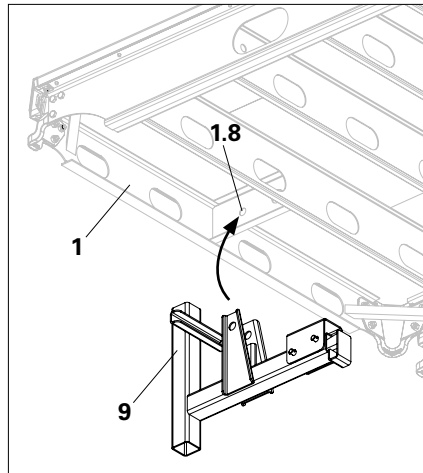
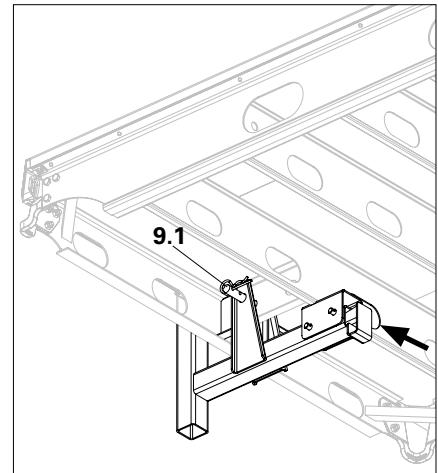

Fig. A9.01
Fig. A9.02
(Fig. A9.01 + Fig. A9.02)
3. To tighten the guardrail holder, hammer its wedge as shown in arrow mark. (Fig. A9.02)